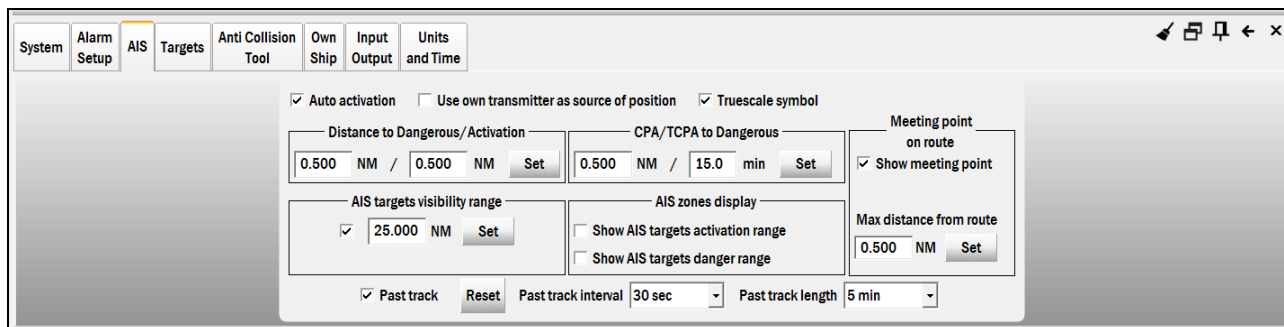

Figure 193 Config → AIS tab, activation distances and time settings
1. Open the **Config → AIS** tab, Figure 193.